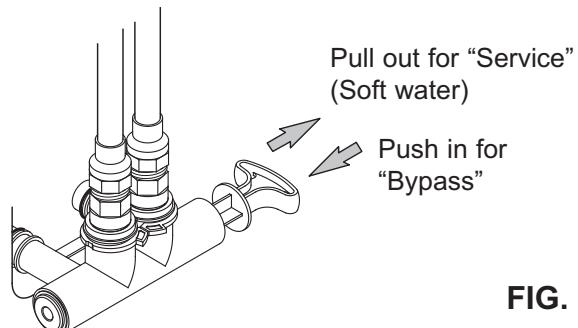
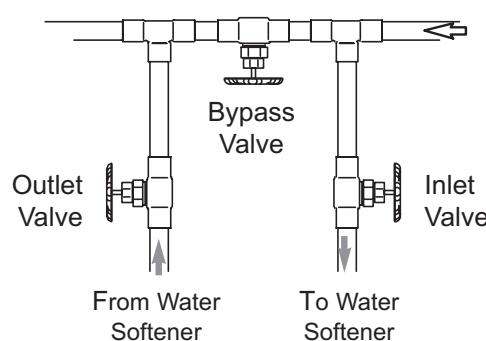

FIG. 7
FIG. 8
Always install either a single bypass valve (provided), as shown in Figure 7, or, if desired, parts for a 3 valve bypass system (not included) can be purchased and assembled, as shown in Figure 8. Bypass valves allow you to turn off water to the softener for maintenance if needed, but still have water in house pipes.
**CAUTION:** The house cold water pipe (metal only) is often used as a ground for the house electrical system. The 3-valve bypass type of installation, shown in Figure 8, will maintain ground continuity. If you use a plastic bypass valve at the unit, continuity is broken. To restore the ground, do the following:
3. Place bypass valve(s) in "bypass" position (see Figures 7 & 8). On a single valve, slide the stem inward to bypass. On a 3-valve bypass, close the inlet and outlet valves and open the bypass valve.